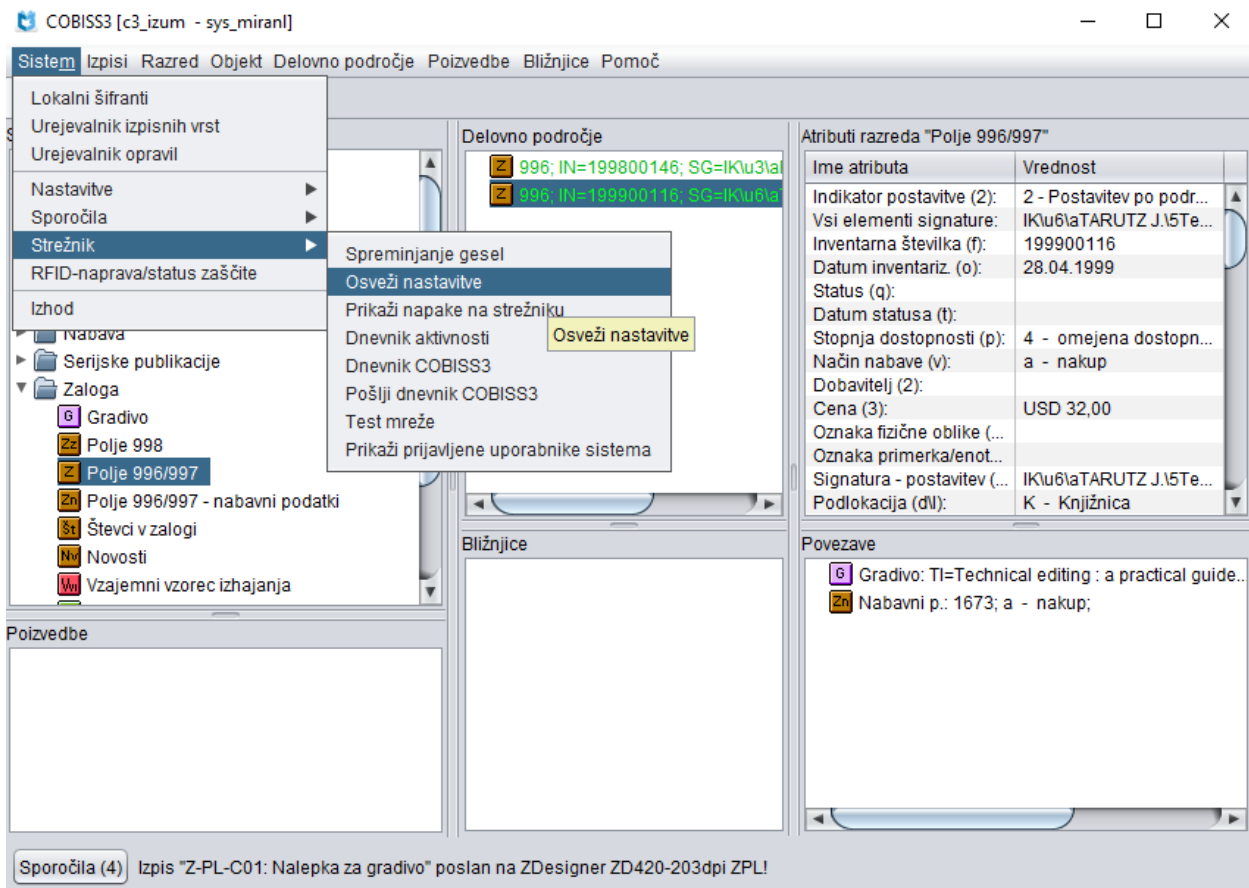

Figure 10: Refreshing settings in the COBISS3 user interface
- Figure 10: Refreshing settings in the COBISS3 user interface6
When all the settings are configured, click the **OK** button to confirm each choice. At the end, in the **System** menu, select **Refresh settings** (see Figure 10). If this option is not available, refresh the newly configured settings by first logging out and then logging in to the COBISS3 software.